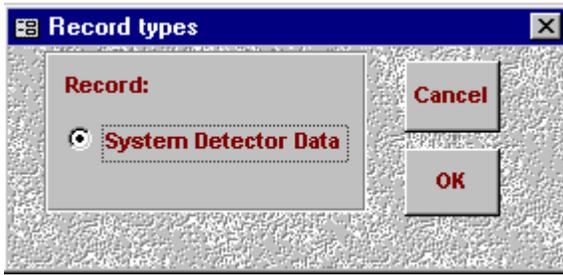

Figure 5.5 - The Record Types dialog box
1. In the Record types dialog box as shown in Figure 5.5, click the appropriate record option, and then click OK. The View Records dialog box appears.